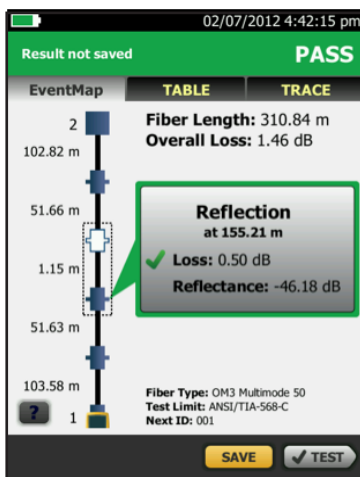

Figure 13 - OptiFiber Pro EventMap™ example, by tapping on bubble to drill in for more information
**EventMap™ View** – In figure 13 is an example of a PASSING test using launch and tail fiber